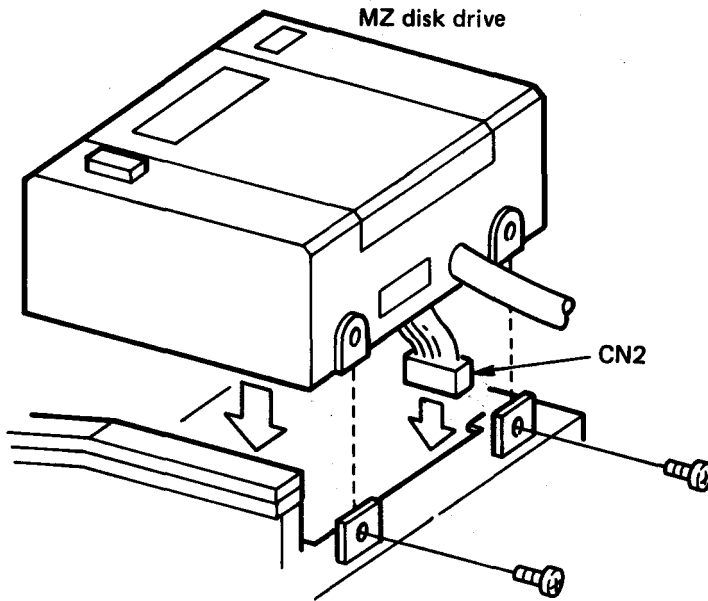

Figure 3
- 2) Connect CN2 (from the bottom of MZ-1F11) to the connector of the computer main unit that was originally connected to the data recorder. (Figure 3)
- 3) Mount the MZ-1F11 where the data recorder was originally, using the screws that held the data recorder in place. (Figure 3)